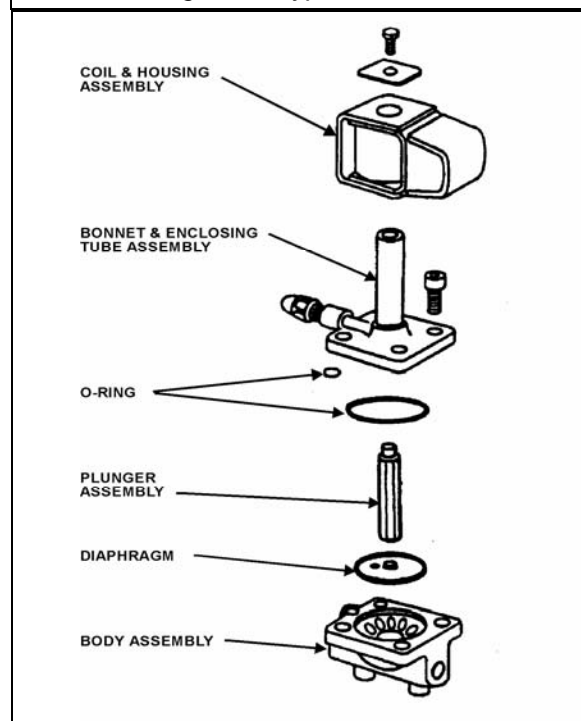

FIGURE 33: REFRIGERANT SOLENOID VALVE
3. Remove the four socket head screws which hold the body and bonnet together (figure 33).